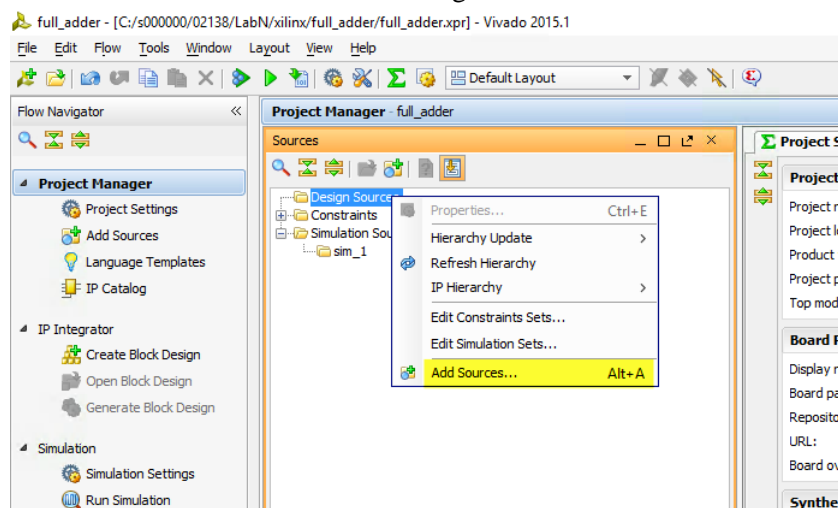

Figure 16. Source files.
18. You should now add the VHDL file that you have just created using ModelSim and is located on “src” directory from the M drive (for example: M:\02138\LabN\src). This is done by right-clicking anywhere in the “Sources window” and then selecting “Add Sources...” as shown in Figure 16.